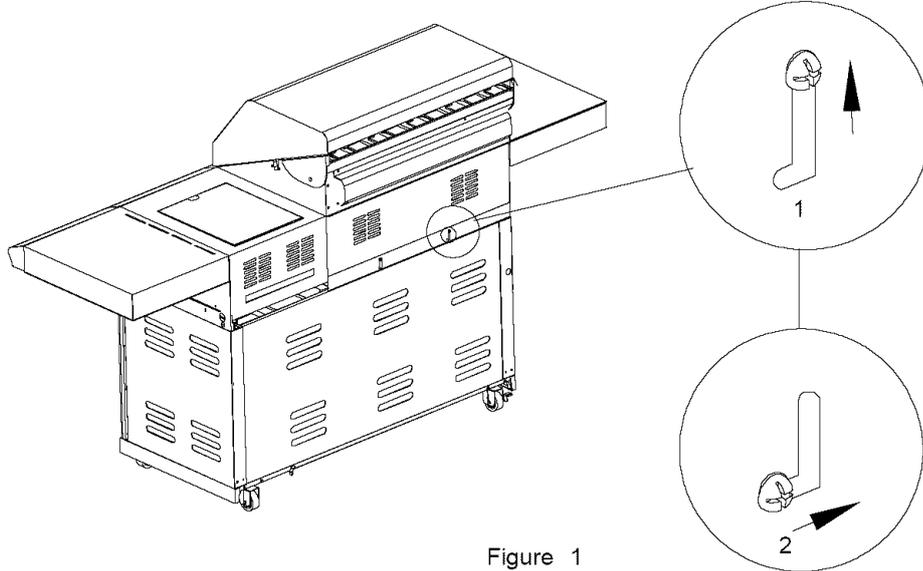

Figure 1
- From the back of the grill, lift the Rear/Upper Bowl Panel by lifting it and sliding to the Right. (See figure 1).